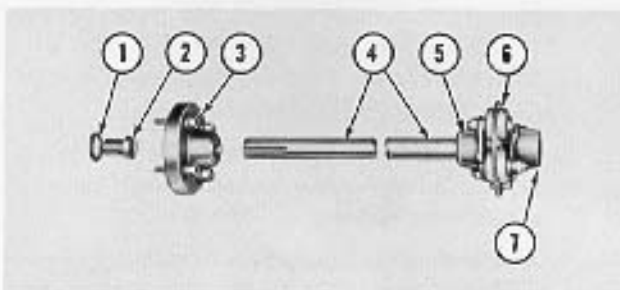
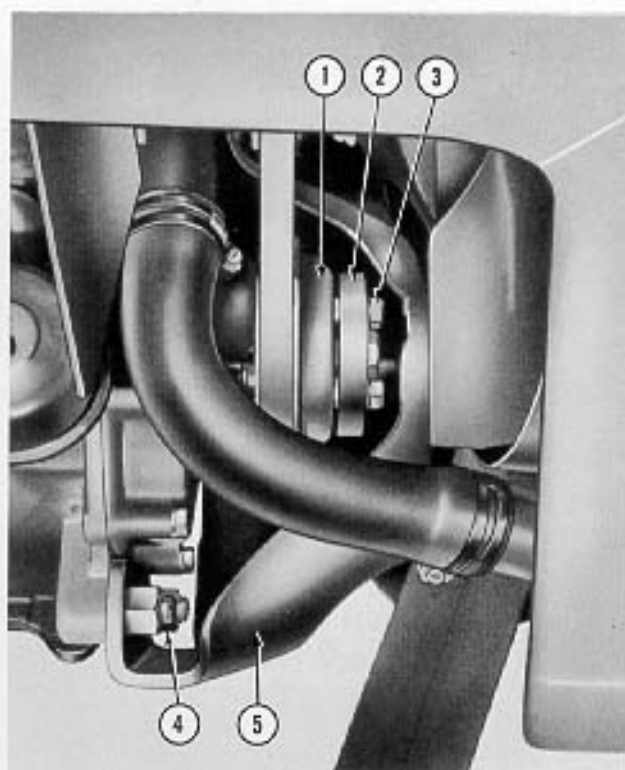
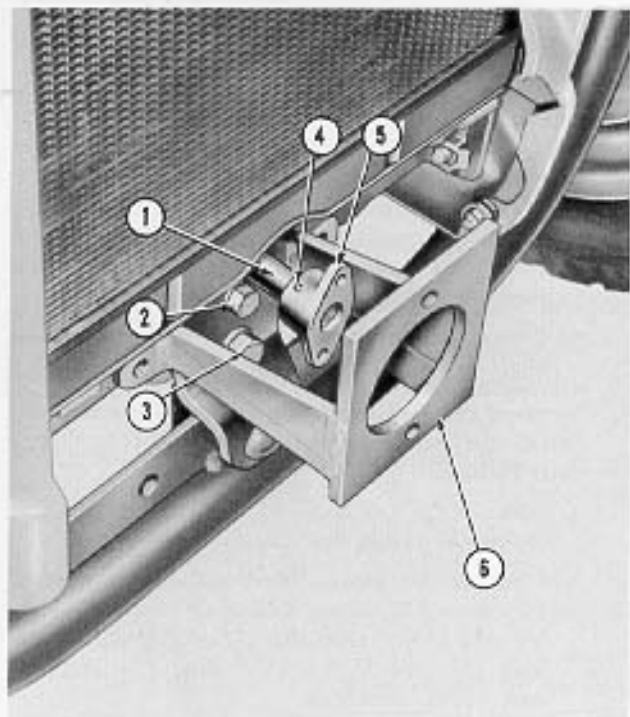

Figure 3
Figure 4
Figure 5
2. Attach the drive plate (2), Figure 4, to the tractor crankshaft pulley (1) as follows:
- b. Fit the flatwasher (1), Figure 3, on the special cap screw (2), and install the cap screw in place of the crankshaft ratchet nut which was removed.
- c. Place the four $\frac{3}{16}$ " x 1" cap screws and lockwashers in the drive plate (3), Figure 3.
- d. Position the assembly on the front of the crankshaft pulley (1), Figure 4, by working it through the opening (4) at the bottom of the engine suspension plate (5). Caution must be
taken to position the drive plate without dropping the cap screws (3) from the drive plate or moving the crankshaft pulley (1). Make sure that all of the cap screws (3), Figure 4, are partially started in the holes of the crankshaft pulley before attempting to tighten them securely.
e. Use a thin wrench to tighten the cap screws (3), Figure 4.
3. Remove the radiator grille from the tractor and install the loader suspension bracket (6), Figure 5, as follows:
a. Remove the hex head bolt (2), Figure 5, and lockwasher from the front of the tractor.
b. Position the loader front suspension bracket (6), Figure 5, on the front axle support assembly and secure with the $\frac{1}{2}$ " x $1\frac{1}{2}$ " hex head bolt (2), the $\frac{5}{8}$ " x $1\frac{1}{2}$ " bolt (3) and the lockwashers provided.
4. Remove the flange (7), and coupling (6), Figure 3, from the pump drive shaft (4). Coat the shaft
splines with grease and insert the shaft in the crank hole until it is firmly seated in the splined drive plate (2), Figure 4. Loosen the Allen screw (4), Figure 5, and position the flange (5), on the shaft (1) so that the end of the shaft lacks about $\frac{1}{8}$ " of being flush with the face of the flange.
- Attach the coupling (6), Figure 3, to the flange (5), Figure 5, with the two bolts and locknuts provided.